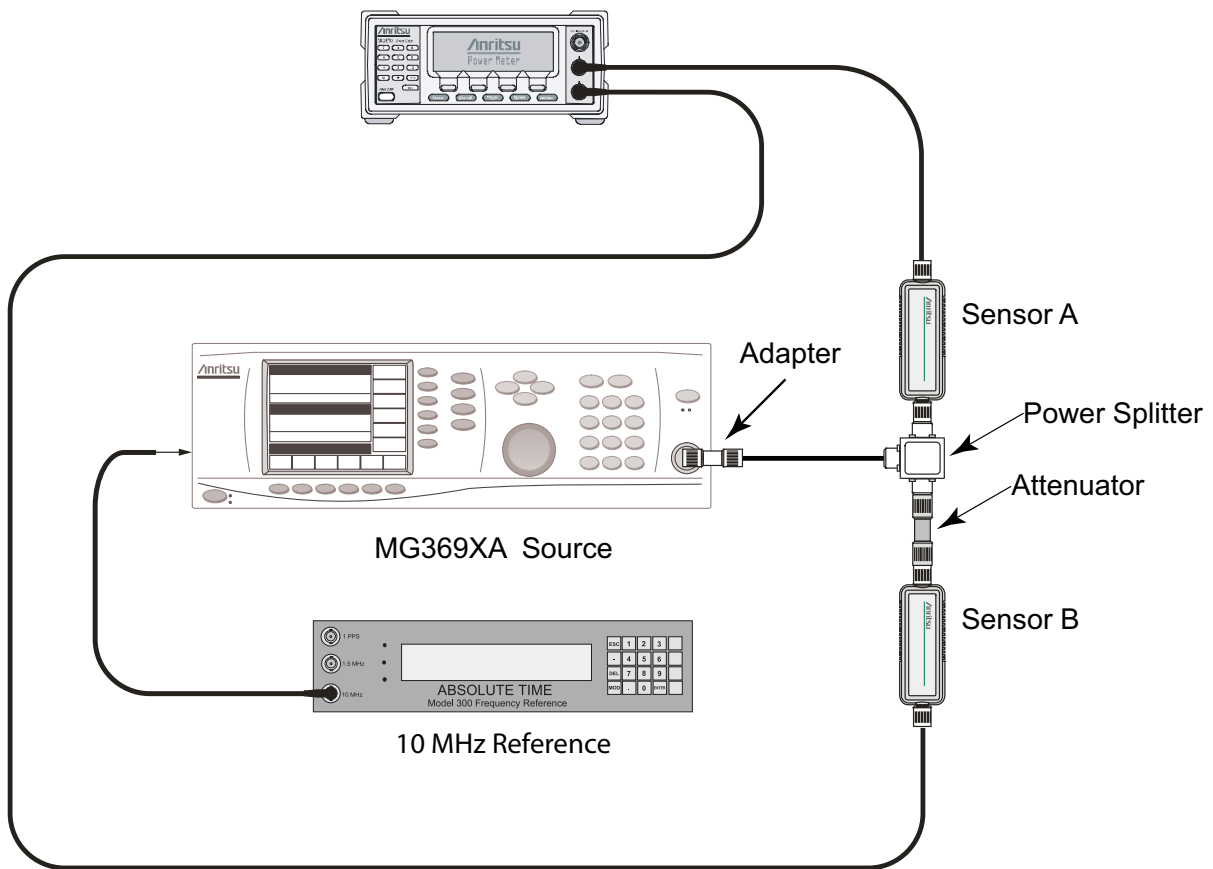

Figure 2-5. 50 MHz Amplitude Accuracy Verification Setup
3. Connect the model 1870A power splitter to the MG3692x output, and connect Sensor B to one of the power splitter outputs (Refer to Figure 2-5).
2. Connect the equipment as shown in Figure 2-5 on page 2-17.